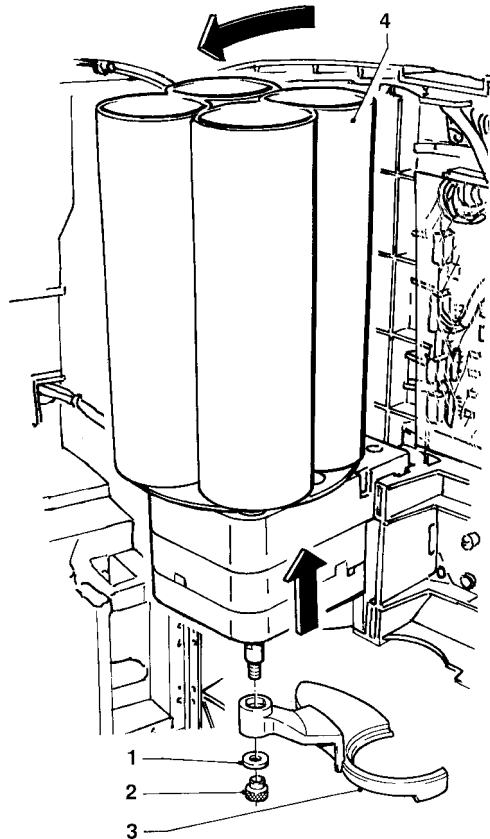

Fig. 3
- slightly lift the cup dispenser and tilt it (see Fig. 3);
The cup shift arm must be cleaned periodically by removing it from the machine. In order to remove it, completely undo the fastening knurled nut (see Fig. 3).